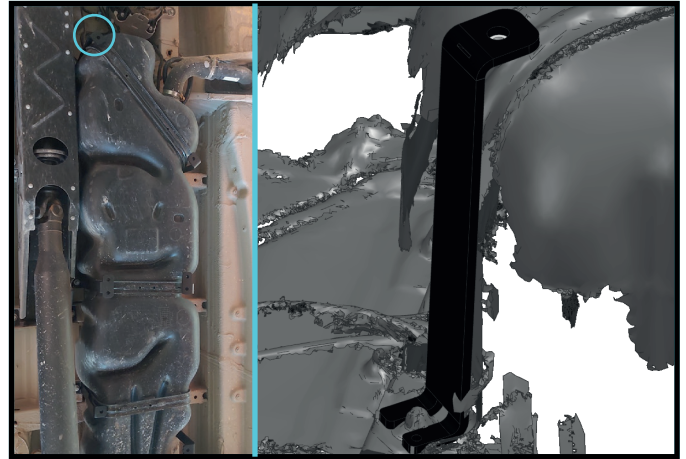

Fig. 6
6. Remove factory bolt. Fix the front right bracket (item 3) using factory bolt as shown in fig.6.